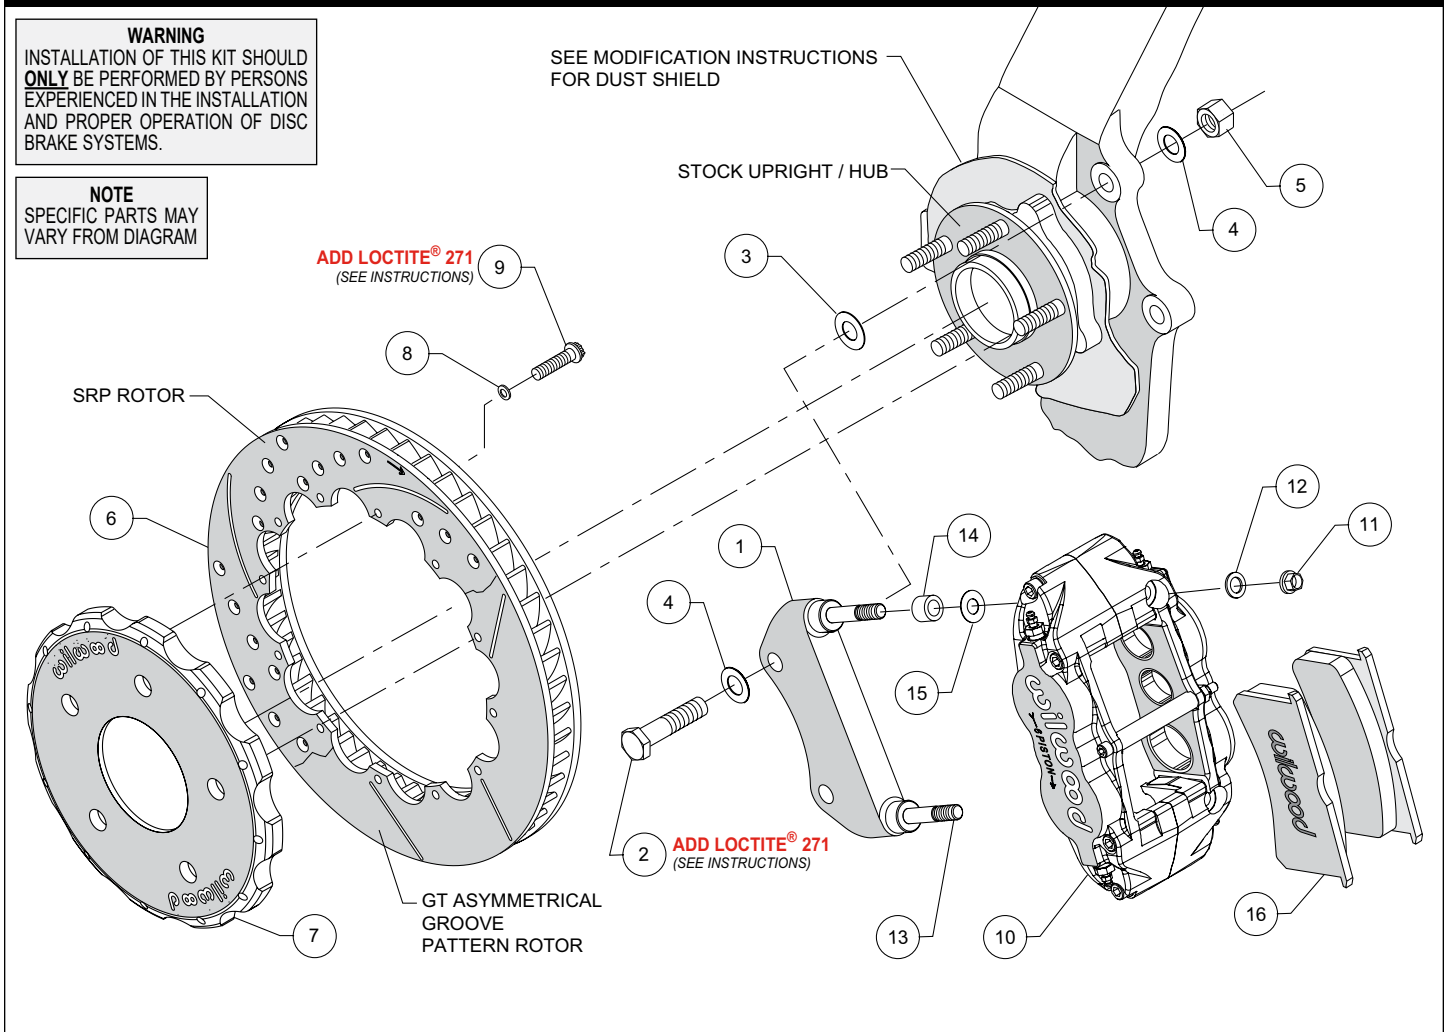

Figure 1. Typical Installation Configuration
NOTE: Numbers in parenthesis refer to the parts list and Figure 1 on the preceding pages.
- The caliper mounting bracket assembly (1) should be installed first with clean, dry threads on the mounting bolts. Install the bracket from the front side of the spindle by sliding bolt (2) through washer (4) and bracket (1). Place shim washer (3) between the bracket (1) and the spindle (see Figure 1). Slide washer (4) onto bolt (2) from the rear side of the spindle. Secure with nut (5). The bracket must tighten squarely against the side of the spindle body. Inspect for interference from casting irregularities, machining ridges, burrs, etc. Use one thin shim (3) between the bracket (1) and spindle during initial trial fitting.